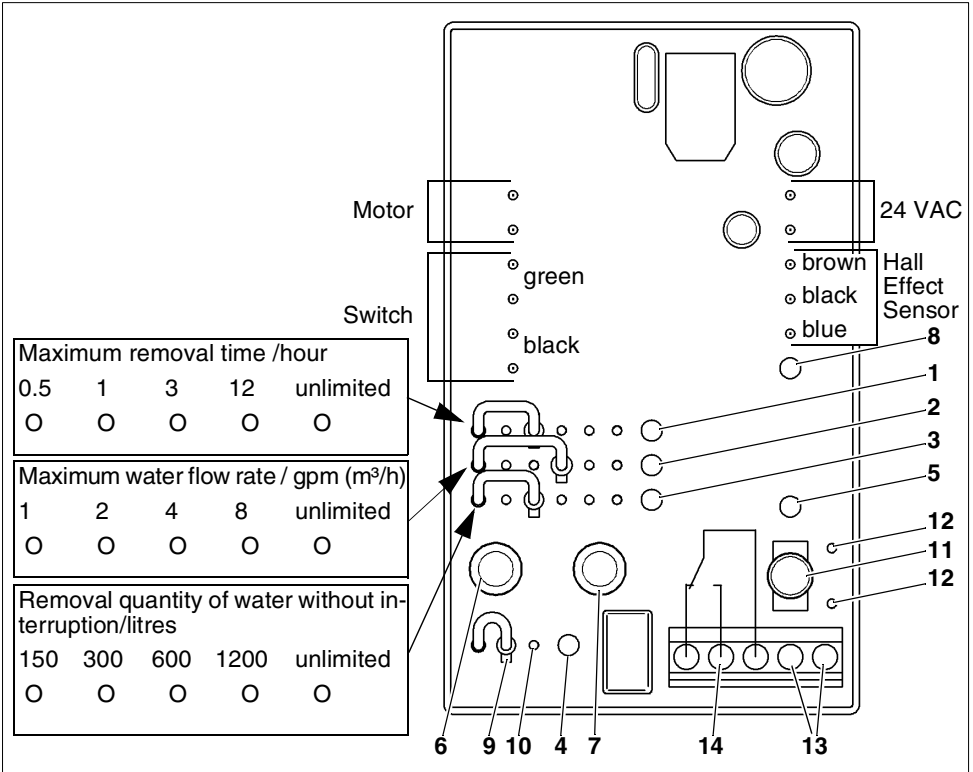

Fig. 6: Patching Possibilities and Description of the Electronics
After the mounting of the Monitoring Fitting Water Stop the installation system can be tested for its tightness by the controlling of the yellow LED (8) (see fig. 6). If all the taps are closed the yellow LED mustn't flash (has to be checked during approximately two minutes).
Concerning the criterions 1 to 3 is still the possibility to set to unlimited (see fig. 6). By doing so the individual criterion can be rendered functionless.